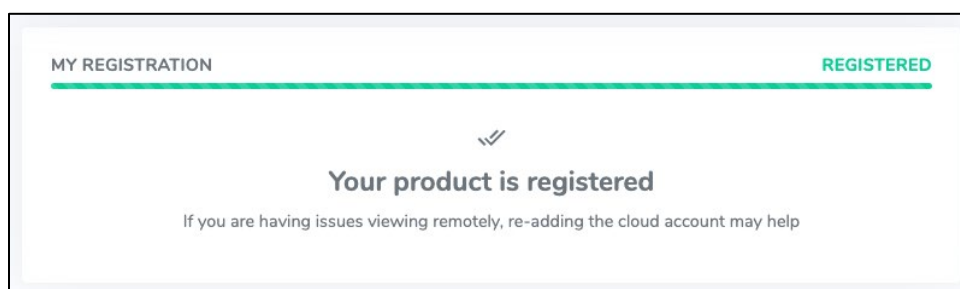

Figure 99
Figure 99 shows the Freeze Dryer is registered with a Cloud account.
1. **Register with a Cloud Account:** Enter cloud account credentials to log in. Once logged in, the Freeze Dryer will automatically register and activate all functionalities (Figure 99). This action will add a Cloud Admin Account to the *Account List*.